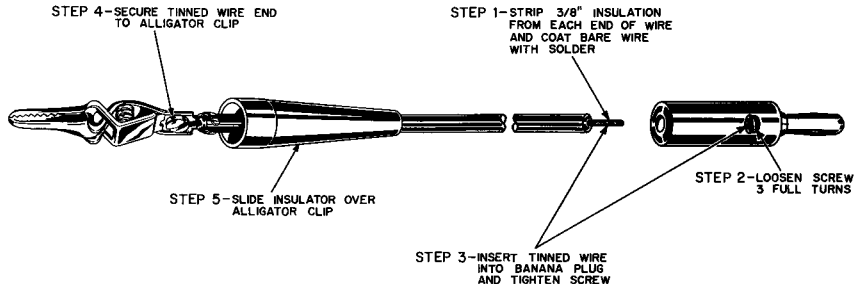

FIGURE 15. HOW TO ASSEMBLE THE TEST LEADS
- (✓) Assemble one red and one black test lead as shown in Figure 15.